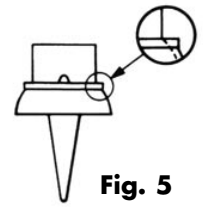

Fig. 5
9. Inspect the casting for bubbles. Any bubbles on the surfaces of the female ring and the base must be removed to assure proper fit of the attachment unit. The base and coping may be rounded from the external surface of the female ring to the margin of the coping (Fig. 5). In finishing the outside of the ring take care not to reduce the wall thickness appreciably.